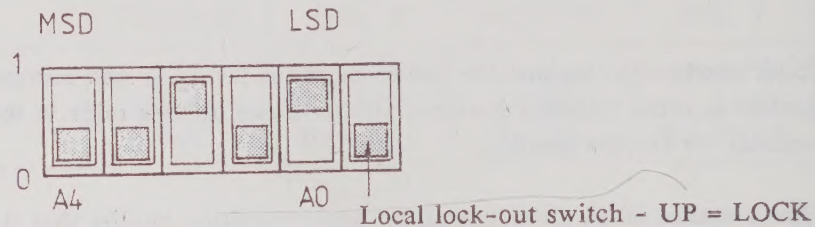

Fig 2.1 Address Switches
- i) The First Bus Transmission - In its factory default state the unit will normally switch on in local and enter bus (remote) control when the first command is sent and the remote enable (REN) line in the bus is true. To return to local press the momentary action switch to the right of the address switches (see *fig 2.1*). Alternatively set the REN line false, send the GPIB command 'LCL' or remove the GPIB connector.
- iii) The Local Lock-out Switch - See *fig 2.1*. This has been included as a safety feature to avoid the local controls being available even when the GPIB connector hasn't been fitted or has dropped off. When UP the unit will NOT enter local mode unless specifically unlocked by a special bus command (LCK - see 2.4.8), the 'Go To Local' button is disabled as is the standard bus command 'LCL'. When DOWN the unit behaves normally as described above.